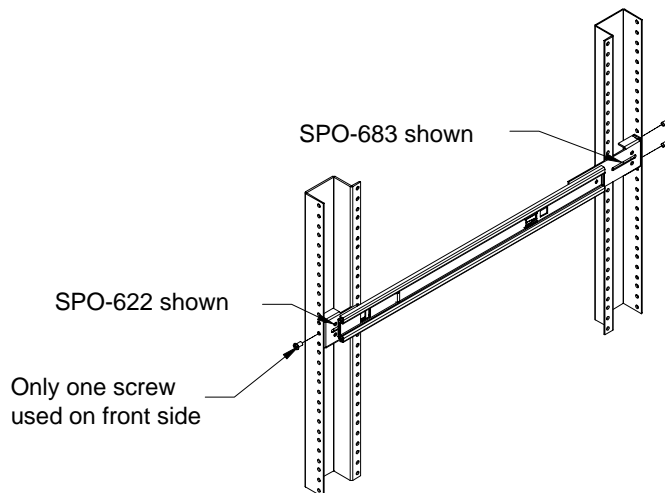

Figure 9 Mounting Cabinet Section Into Rack
- (4) Bar nuts (SPO-623 sold separately)
- (6) #10 × 0.375 flat head countersunk Phillips SST screw (not supplied by Jonathan). Two for each side. See Figure 9.